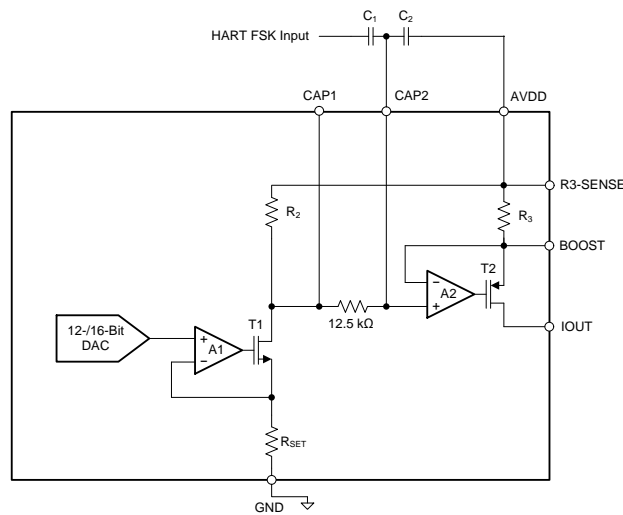

Figure 60. Implementing HART on IOOUT Using the CAP2 Terminal
The first method of implementing HART is to couple the signal through the CAP2 pin, as illustrated in Figure 60. Note that this pin is only available in the 40-pin VQFN package
In Figure 60, R_3 is nominally 40 Ω , and R_2 is dependent on the current output range (set by the RANGE bits), described as follows:
When the input HART frequency is greater than the 3-dB frequency, the ac signal is seen at the plus input of amplifier A2 and is therefore seen across the 40- Ω resistor. To generate a 1-mA signal on the output therefore requires a 40-mV peak-to-peak signal on CAP2. Because most HART modems do not output a 40-mV signal, a capacitive divider is used in Figure 60 to attenuate the FSK signal from the modem. In Figure 60, the high-pass cutoff frequency is $1 / (2 \times \pi \times [R_2 + 12.5 \text{ k}\Omega] \times [C_1 + C_2])$. There is one disadvantage to this approach: if the AVDD supply is not clean, any ripple on it could couple into the part.
1. As is seen in Figure 60, CAP2 is directly connected to the input of the final IOUT amplifier. Any noise or unwanted ac signal routed near the CAP1 and CAP2 terminals could capacitively couple onto internal nodes and affect IOUT. Therefore, it is important to avoid routing any digital or HART signal traces over the CAP1 and CAP2 traces.